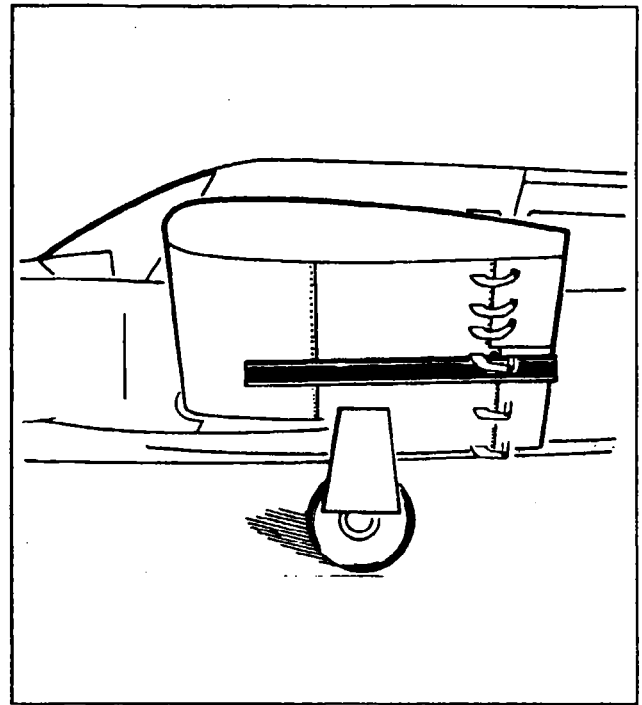

Figure 5-15. Flap Rigging Tool
g. To check up-neutral position of the flaps, place a flap rigging tool as shown in Figure 5-15 against the underside of the wing and flap as close as possible to the outboard end of the flap without contacting any rivets. The tool must be positioned parallel with the wing ribs with the aft end of the tool even with the trailing edge of the flap. (This tool may be fabricated from dimensions given in Figure 5-17.)